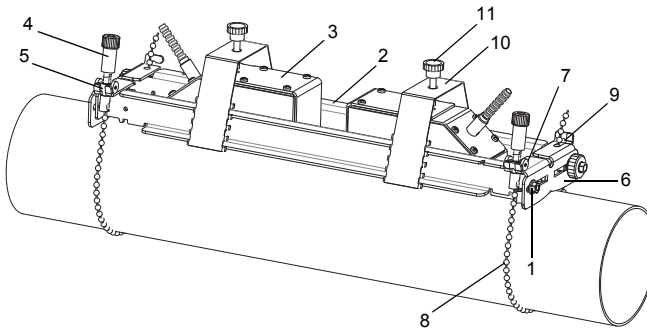

Fig. 8.4: Variofix rail with chains
- Loosen the 4 screws (1) for the adjustment of the rails (2) with a M8 wrench (see Fig. 8.4).
- Place one transducer (3) in the center between the rails.
- Press the two rails (2) together and tighten the 4 screws (1). The transducer can be shifted and removed.
- Loosen the chain tensioners (4), but do not unscrew them completely.
- If the chain has not yet been mounted in the rail support (6):
- Force apart the legs of the spring clip (10) and clamp it over the outer side of the rails (2). The height where the spring clip will snap in depends on the height of the transducer.
- Place the transducer between the rails (2). Observe the mounting direction (see Fig. 8.4).
- Push the spring clip (10) over the transducer until the knurled screw (11) is positioned over the blind hole of the transducer.
- Fix the transducer by tightening the knurled screw by hand (11).
- Adjust the transducer distance by loosening the knurled screw (11) of a spring clip (10) and shifting the transducer.